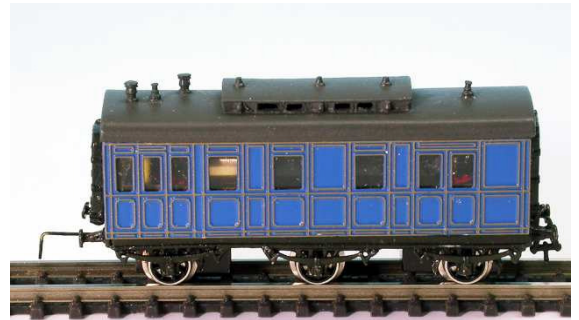

figure 1: Passenger car without platforms as a ghost car
2. The product can be seen in figure 1. These instructions are part of the product. Please retain them well.